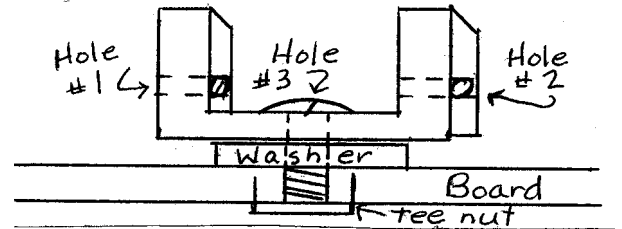

FIGURE 1
The hinged center leg C" is shipped to you already assembled in a two-piece hinged unit, however, you will need to use a small bracket (G) in order to attach the unit to the board. This bracket is the one having THREE pre-drilled holes (see figure 1) which is loosely attached to the center leg unit.